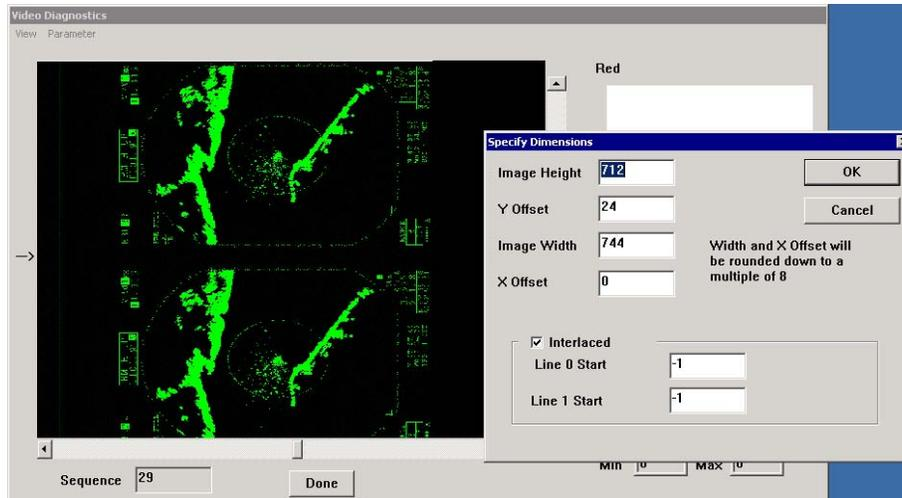
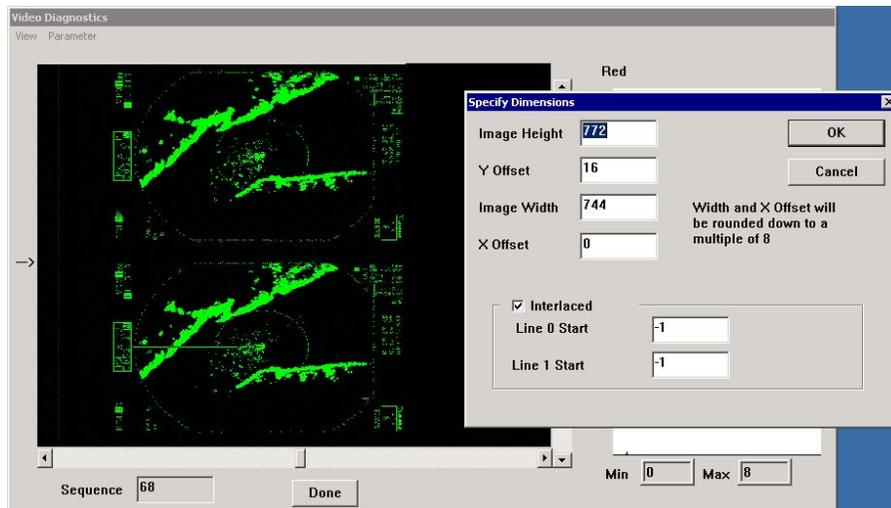

Figure 10-8 - Adjusting Image Height
Figure 10-9 - Image Height Adjusted
3. In the examples illustrated in *Figure 10-8 - Adjusting Image Height* and *Figure 10-9 - Image Height Adjusted*, the image height was adjusted from 712 to 772, allowing the upper and lower images to fit correctly into the VDi Capture Window.